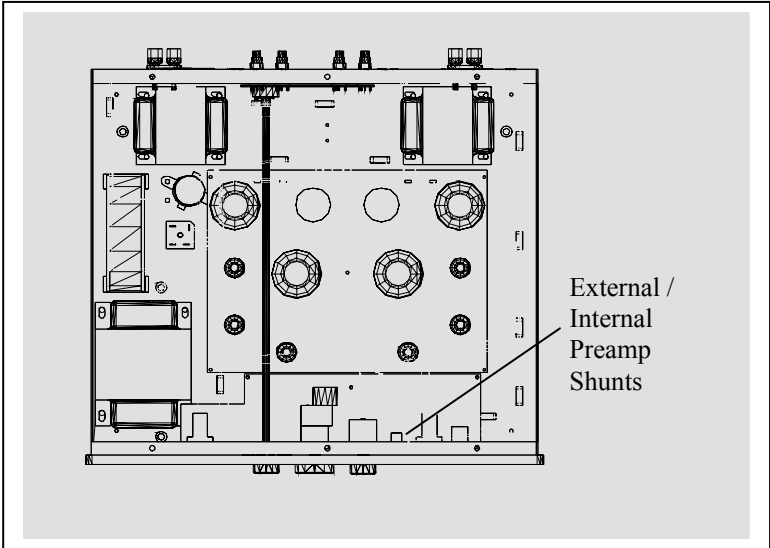

Figure 4
- 2) Locate the four small shunts on the control circuit board as shown in figure 4.